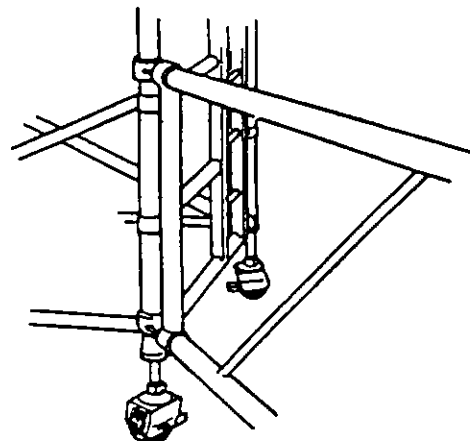

Fig.28
- a. Insert a CA6 castor assembly in the outrigger as shown in Fig. 5. Fit the outrigger to the corner post of the base section (Fig. 28)